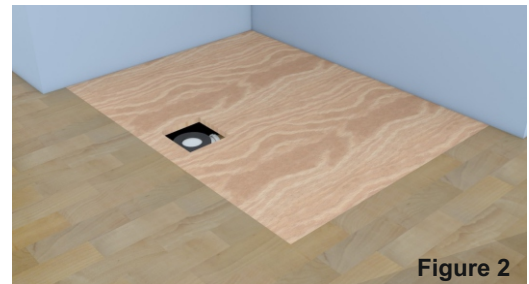

Figure 2
1. The drainage pipe and bottom section of the waste trap should be positioned so that the waste trap will mate comfortably to the shower tray without being put under undue stress or tension. Ensure that the waste trap is fixed correctly to the drainage pipe and that there are no leaks at the joint. See figure 2.